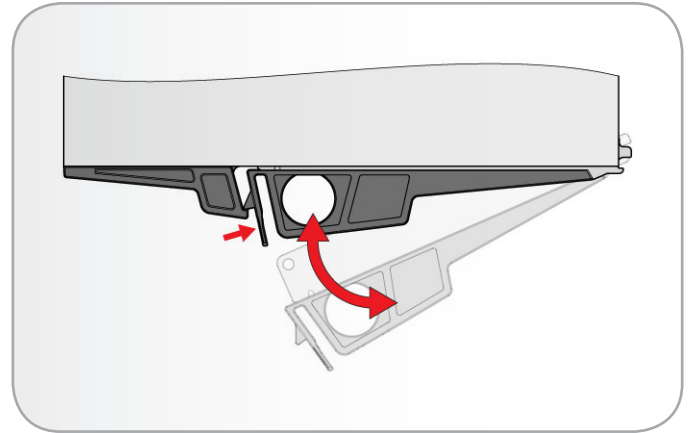

Fig. 80 - Releasing/Securing the Module Handle Latch
1. Grasp the module latch between your thumb and forefinger, and squeeze together to release the latch. (Fig. 80)
2. Secure the module by closing the latch. A click should be heard as the latch locks into position (Fig. 80).